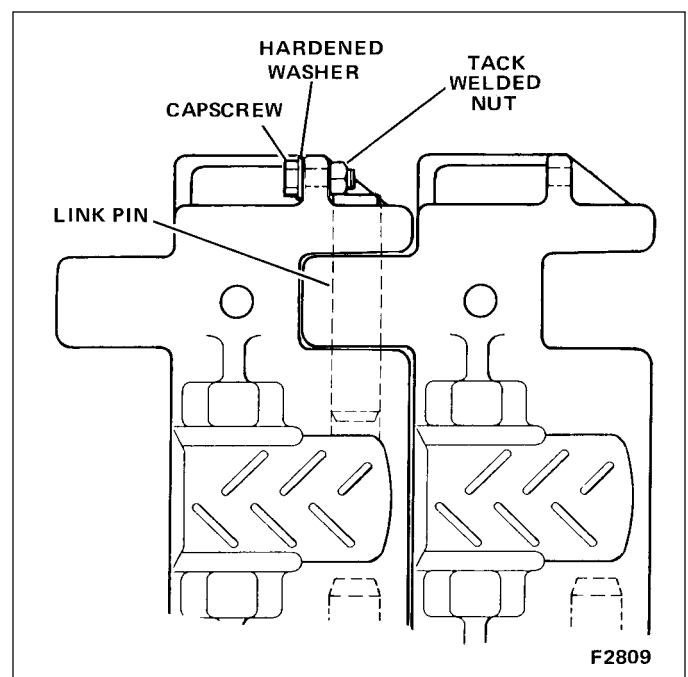

Figure 7-23. Typical Crawler Shoe Removal
8. Remove the crawler shoe link pin retaining capscrews from the shoe nearest the bottom of the idler roller (see Figure 7-23).
7. Install the link pin retainer capscrew, hardened washer, and nut (see Figure 7-23). Tighten to 1463 ft. lbs. (1983 N.m) with threads lubricated with anti-seize compound. Tack weld the nut to the bolt threads.